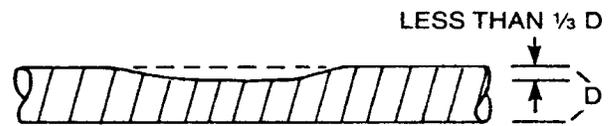

Figure: 5-1 – Repair Unnecessary. No Significant Damage to the Tubing Due to Impact or Crushing
1. No repairs or replacement of the tubing is necessary if the tubing is only slightly dented due to impact or crushing as indicated in Figure: 5-1.